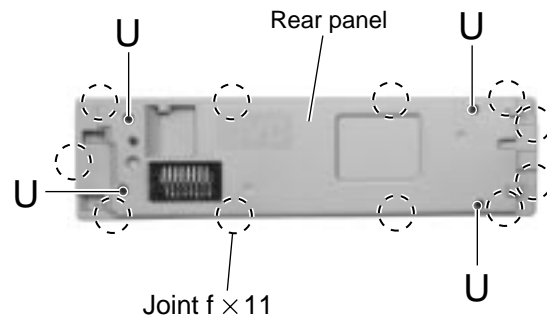

Fig.24
■ Removing the front board (See Fig.24 and 25)